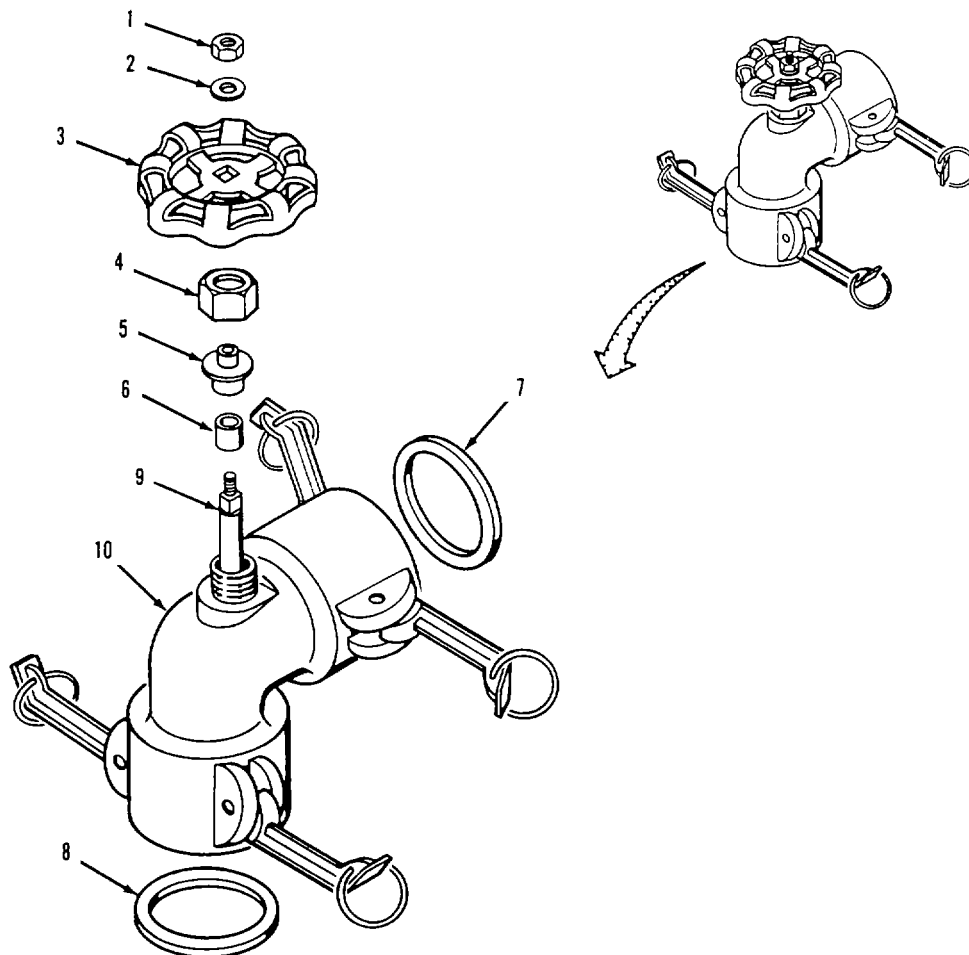

Figure 4-1. Elbow Valve Repair.
- a. Disassembly. Refer to figure 4-1.
- (1) Remove nut (1), washer (2) and handwheel (3) from stem (9)
- (2) Unscrew packing nut (4) from valve body (10)
e. Assembly. Refer to figure 4-1.
- (1) Install coupling gaskets (7 and 8) in valve body (10)
- (2) Install packing (6) and packing gland (5) on stem (9)
- (3) Screw packing nut (4) onto valve body (10)
- (4) Place handwheel (3) on stem (9) and install washer (2) and nut (1)
- (5) Install elbow valve in water system (para 3-4).
- (6) Startup water system (para 2-13c) and check elbow valve assembly for leaks. If valve leaks at stem (9), tighten packing nut (4) 1/4 turn until leak stops. Do not over tighten.